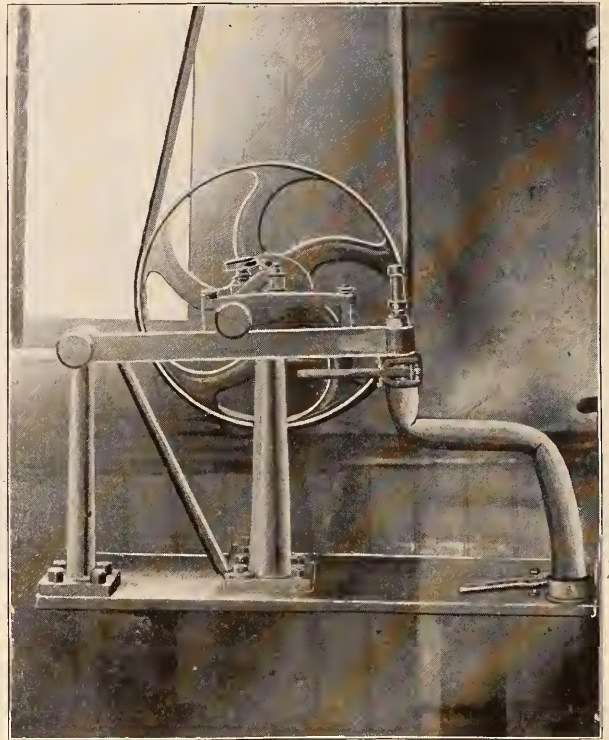
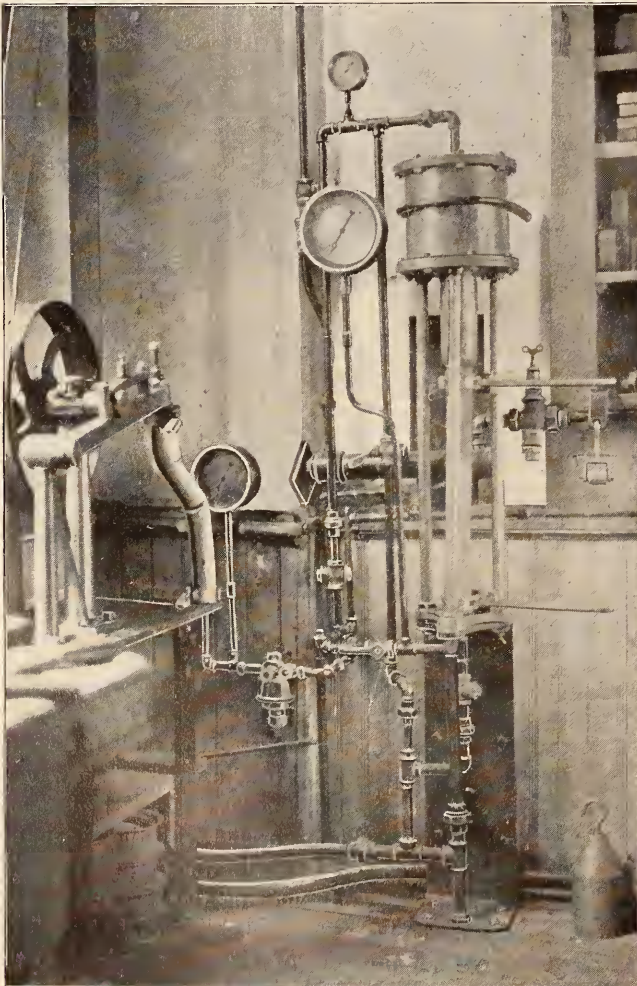

FIG. 2—HOSE TESTING APPARATUS—N. & W. RY.
FIG. 1—HOSE TESTING APPARATUS—N. & W. RY.
**I**N view of the expense to which the Norfolk & Western Railway has been placed in supplying air brake hose, devices for thoroughly testing this material have been designed by the motive power department, and it is found by careful testing that the efficiency of the material may be thoroughly determined before being placed in service. The illustrations which we present herewith show the device for the bursting test to the right of Fig. 1 and the apparatus for the buckling test to the left of the same figure. Another view of the buckling test machine is shown by Fig. 2. The latter machine is devised to reproduce, as far as possible, the vibration or